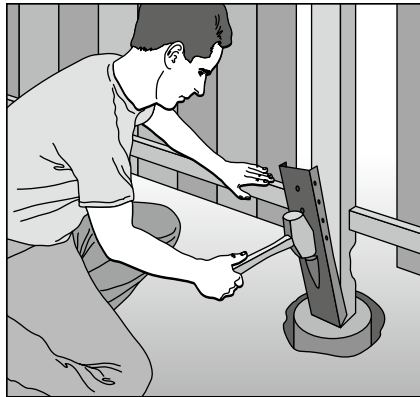

FIGURE 18-1:
- 1. Brace the fence with the 2-by-4 to hold it in a plumb position until the repair can be completed. (See Figure 18-1.)**